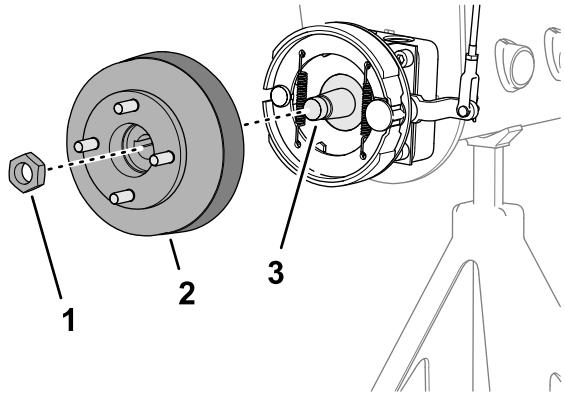
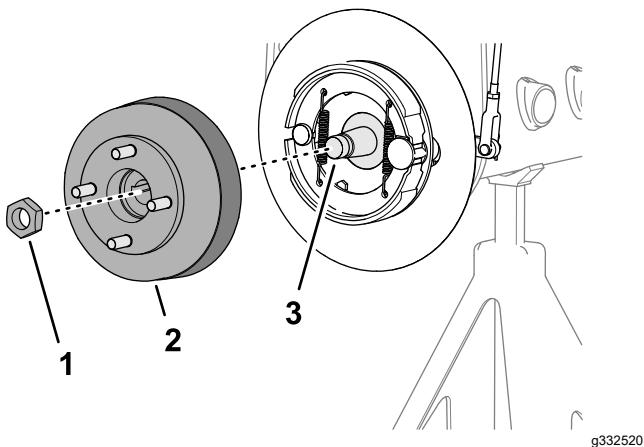

Figure 84
Figure 85
3. Assemble the wheel hub and brake drum onto the wheel-motor shaft (Figure 84 or Figure 85).
- 4. Secure the wheel hub to the shaft with the locknut (Figure 84 or Figure 85), and tighten by hand.